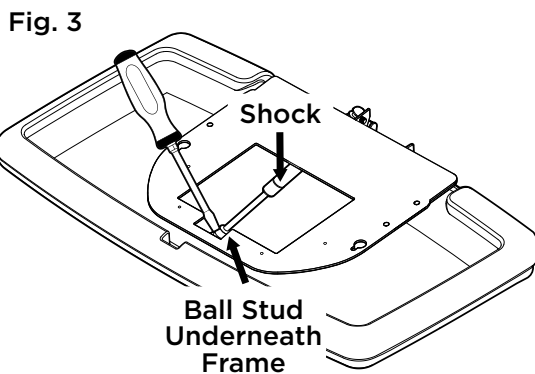

Fig. 3
- Using a flat head screwdriver, release the tension on the "C" clip, which holds the bottom of the shock to the ball stud, by sliding the screwdriver between the "C" clip and the head of the shock. Once the tension is released pull the head of the shock off the ball stud. Repeat this for the other end of the shock. **Fig. 3**